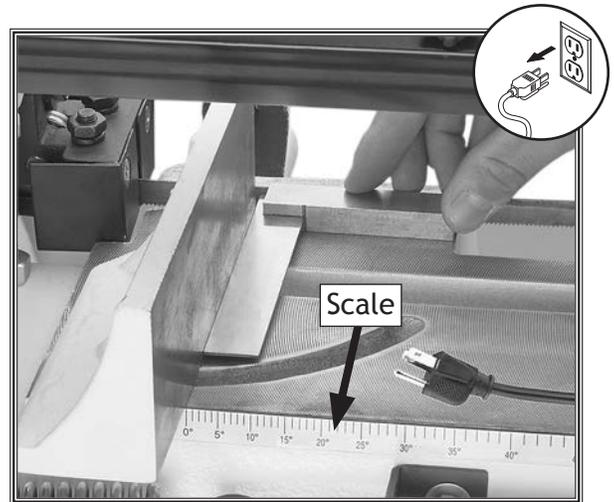

Figure 27. Using a machinist's square to adjust the vise perpendicular to the blade.
2. Check the vise with a machinist's square to make sure the vise is perpendicular to the blade and reads 0° on the scale as shown in **Figure 27**.